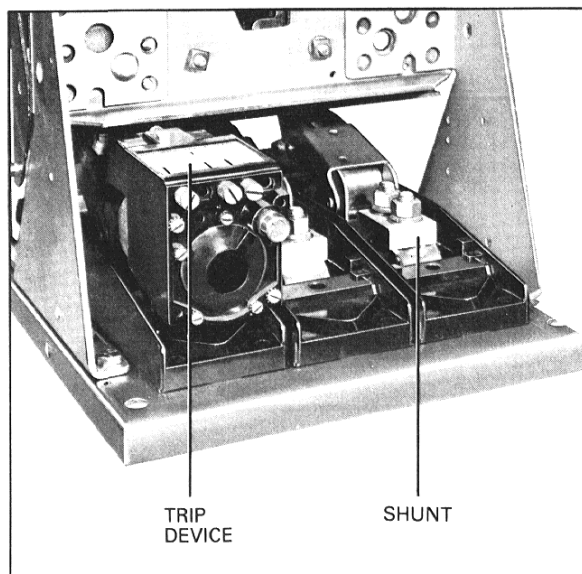

Fig. 4 Removal of Electro-Mechanical Trip Devices
Remove the three electro-mechanical trip units and replace with six copper jumpers, 2 per phase using .5-13 x 3.0 bolts, (12) required. Figs. 4 and 8.